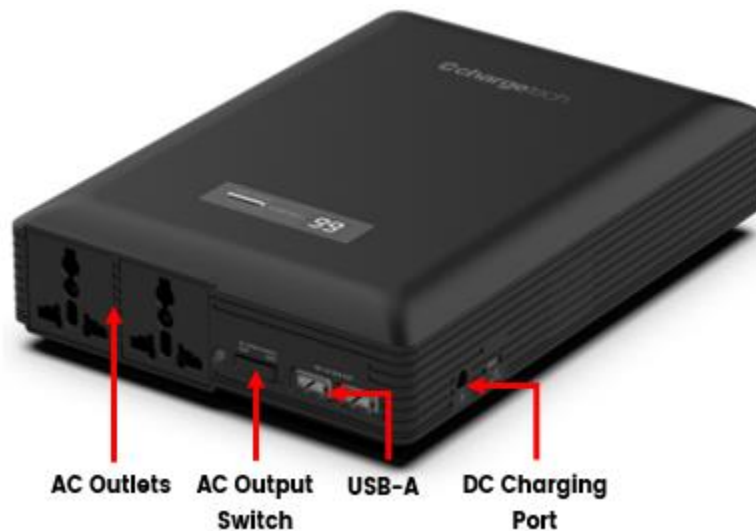

Figure 12: ChargeTech 54K Battery Pack Connections. (Optional)
- A. **If using the battery pack**, plug the surge protector into one of the AC outlets on the battery pack, shown in Figure 12. Connect the battery pack charger to the battery pack charging port and plug into the AC power port at the back of the case. **Ensure the battery pack is OFF.**